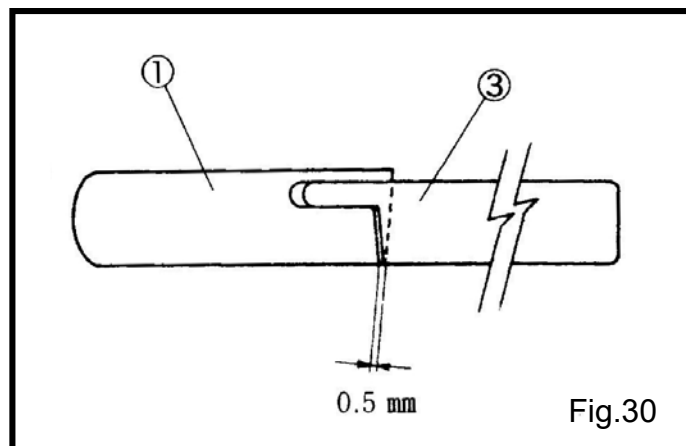

Fig.30
- (2) 當上刀③在最左邊時，上刀③和底刀①要有 0.5mm 的重疊。(Fig.30)
- (2) For the standard position of the upper knife ③, engage between the upper knife ③ and lower knife ① to 0.5 mm when the upper knife ③ is at the extreme left.(Fig.30)